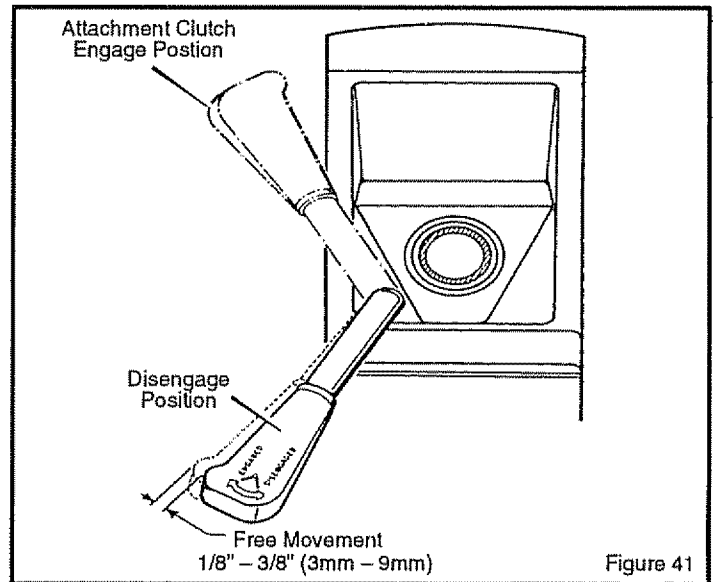

Figure 41
4. Move the **attachment clutch** to the **DISENGAGE** position (Figure 41).